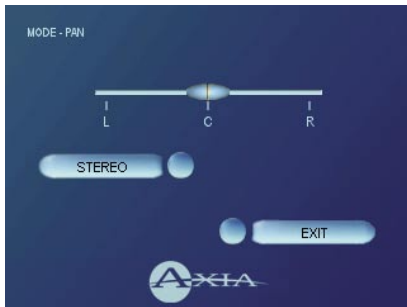

Figure 4-25: Aux Return Pan/Mode screen.
- » **Pan/Mode** lets the operator adjust the pan/balance of the return source, and correct signal phase errors. Pressing the lower-middle left Soft Key (marked **PAN/MODE**) causes the right-hand screen to display the Aux Return Pan/Mode Menu (Figure 4-25). The alpha display beneath the Studio Monitor Volume Control knob now reads **PAN/BAL**; the